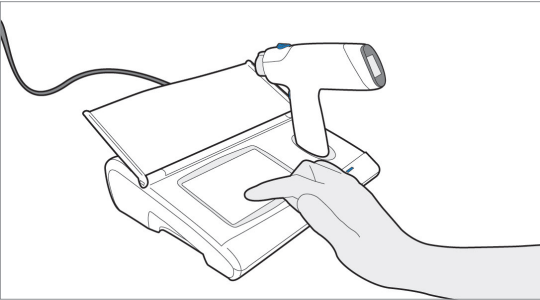

Figure 39 Base Station Entry
1. On the *Enter Password* screen on the Base Station, enter the password (see Figure 39).